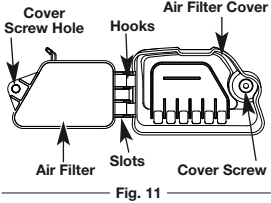

Fig. 11
1. Open the air filter cover by unscrewing the cover screw (Fig. 11).
2. Remove the air filter (Fig. 11).
6. Replace the filter (Fig. 11).
7. Reinstall the air filter cover. Position the hooks on the air filter cover with the slots on the air filter backplate (Fig. 11).
8. Swing the cover to the left and align the cover screw with the cover screw hole. Tighten the cover screw to secure the air filter cover (Fig. 11).